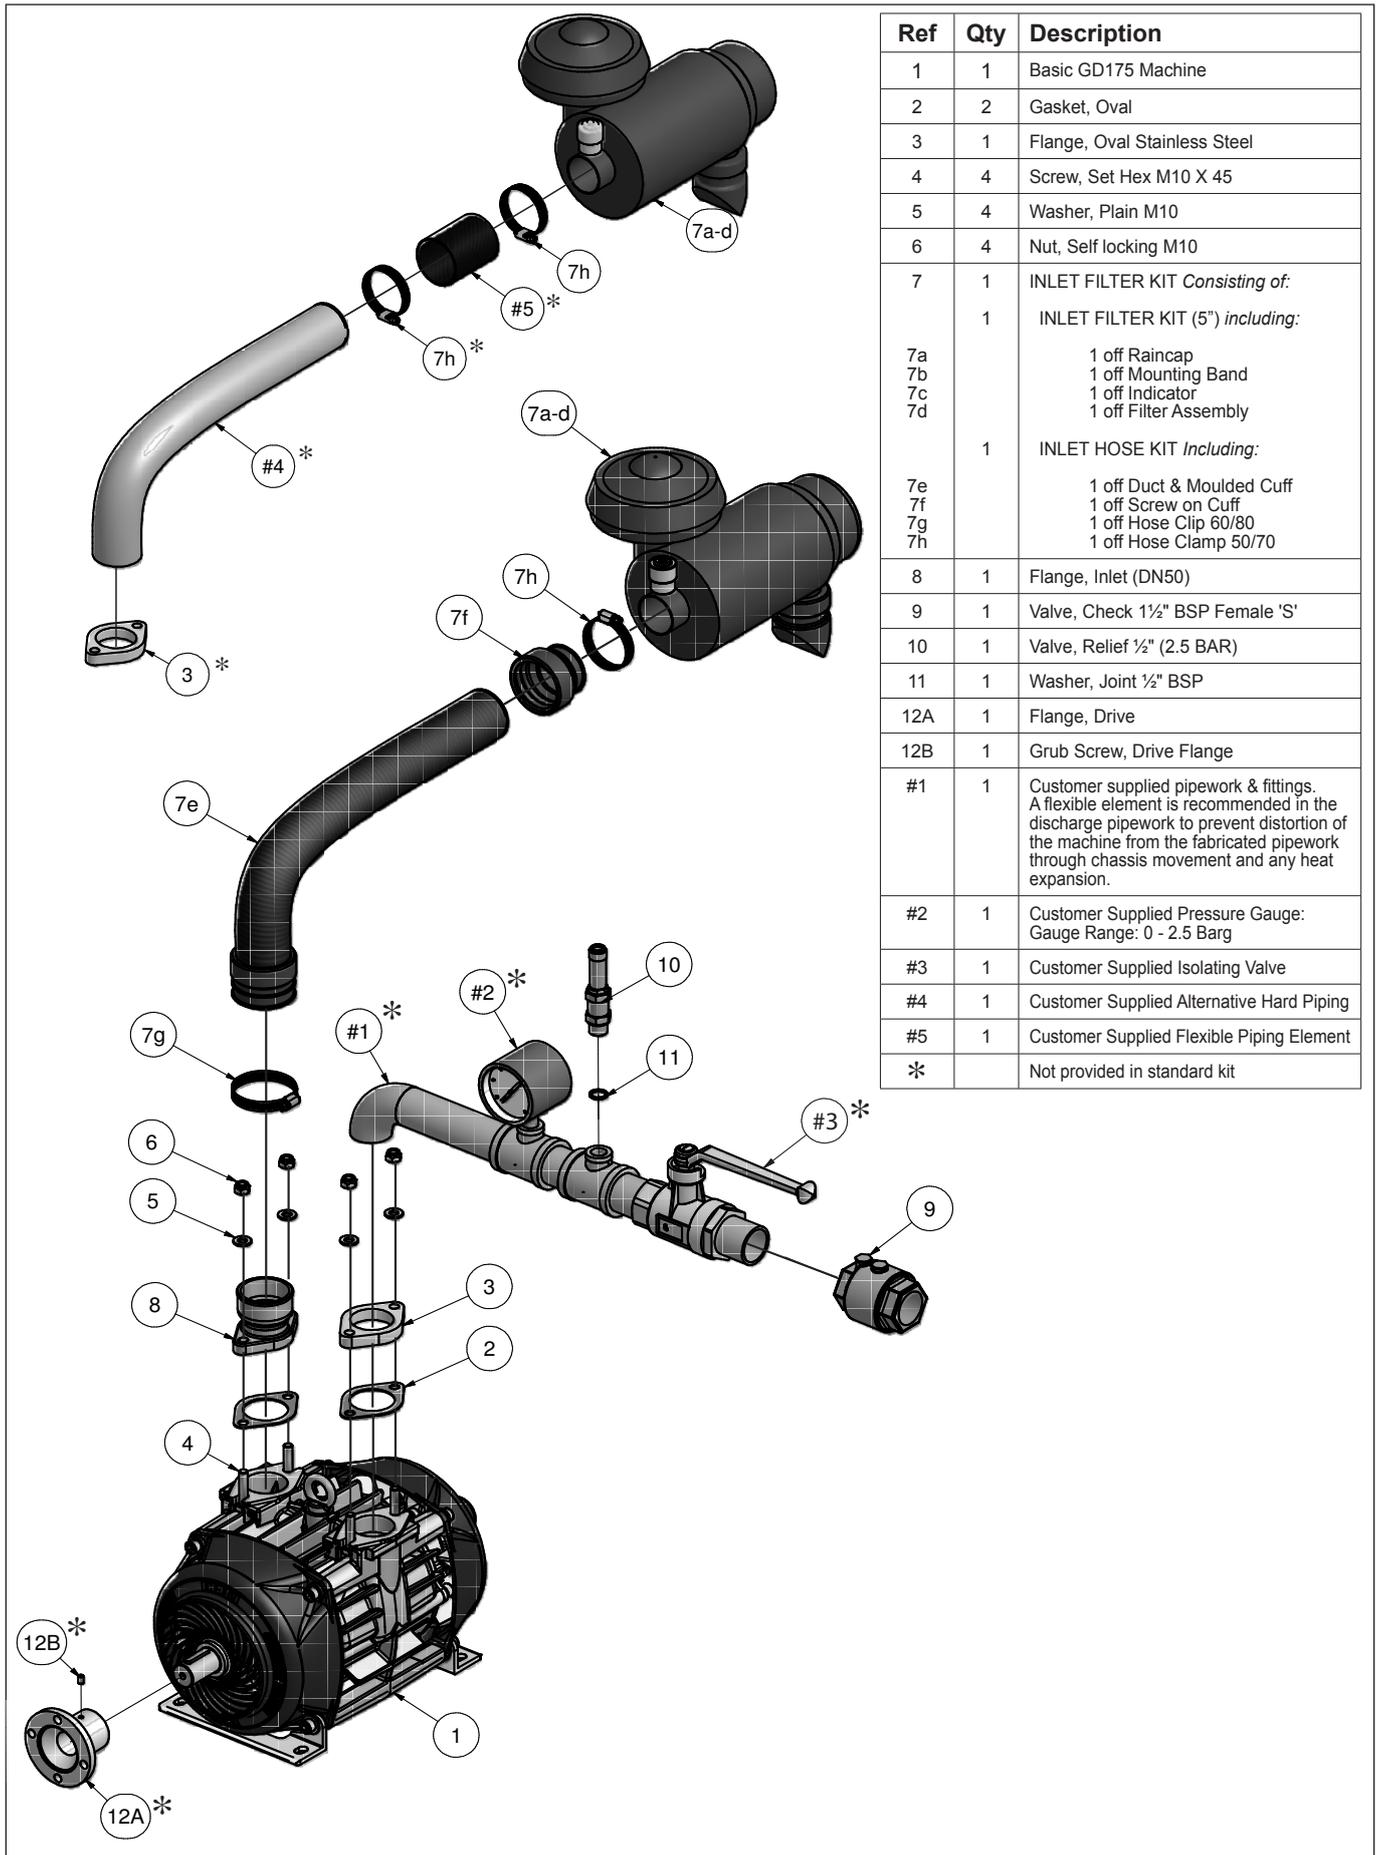

Figure 8. General Arrangement.
Air Inlet Filter and Flexible Induction Kit. (Fig 8, items 7)
Relief Valve. (Fig 8, Item 10)
Check (non-return) Valve (Fig 8, Item 9)